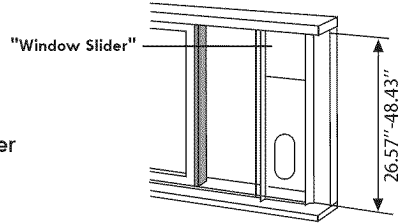

Fig.13
2. Place the window slider onto the adhesive foam seal (see Fig. 13). Adjust window slider height according to the instructions on page 8.
3. Cut another length of adhesive foam seal and attach it to the window sash (see Fig. 13). Close the window sash securely onto the window slider (see Fig. 14).